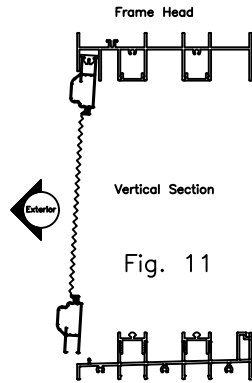

Fig. 11
- a) From outside, lift screen into the screen track and swing bottom of the screen inward until the bottom of the screen aligns with the screen track on the frame sill AS SHOWN IN Fig. 11. Lower screen onto screen track.